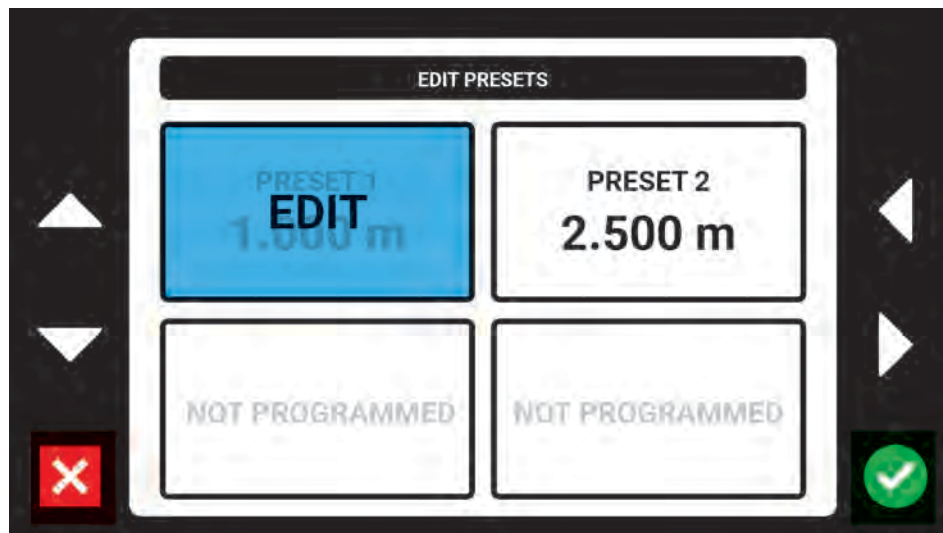

Figure 5-13 Edit Presets Screen
1. Go to the Settings Screen (Section 5.7.1). Scroll through the setting options and select “Edit Presets”. Below is the Edit Presets Screen (Figure 5-13):